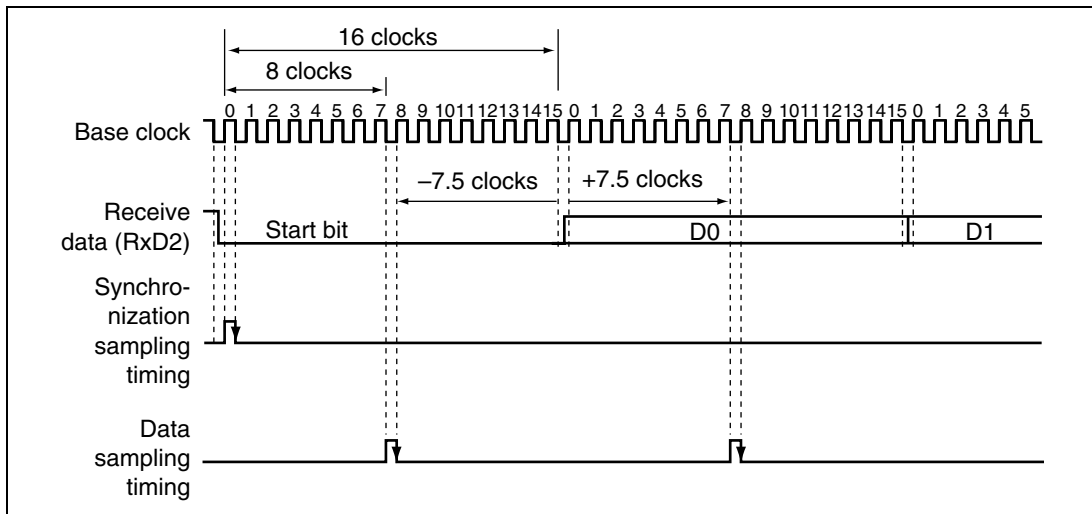

**Figure 16.13 Receive Data Sampling Timing in Asynchronous Mode**
6. Receive Data Sampling Timing and Receive Margin: The SCIF operates on a base clock with a frequency of 16 times the transfer rate. In reception, the SCIF synchronizes internally with the fall of the start bit, which it samples on the base clock. Receive data is latched at the rising edge of the eighth base clock pulse. The timing is shown in figure 16.13.